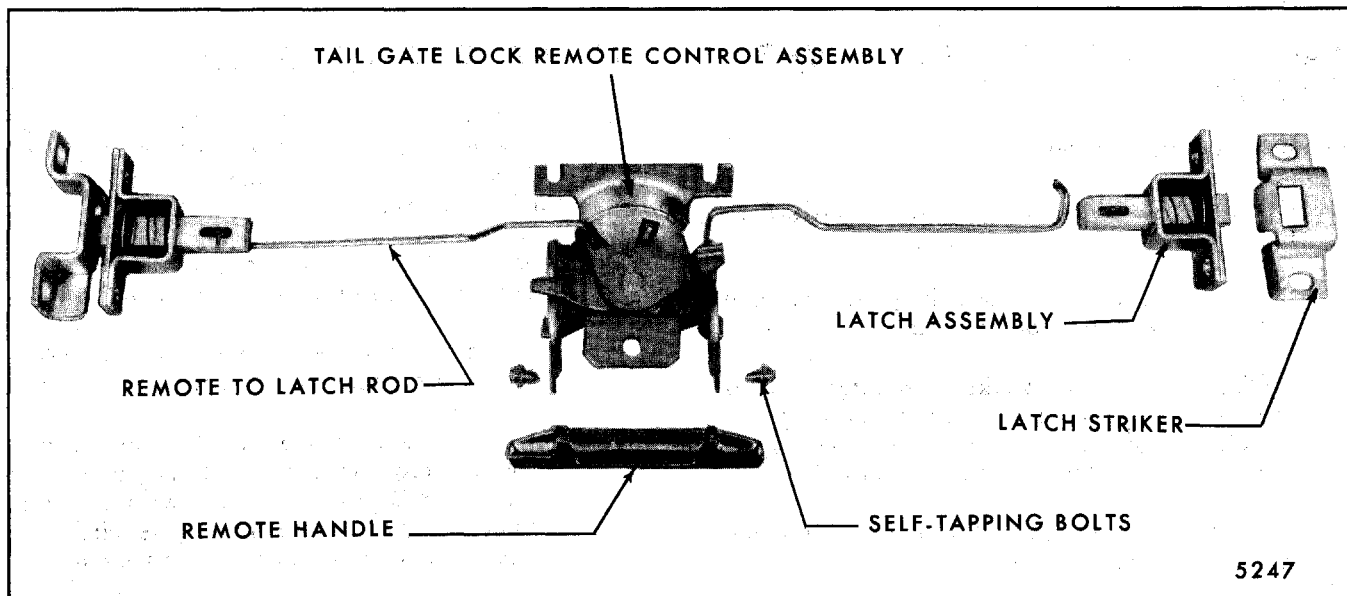

Fig. 7-123-Tailgate Hardware Components
4. Remove remote control attaching bolts and withdraw assembly from tailgate. Refer to Figure 7-123 showing hardware components removed from tailgate.